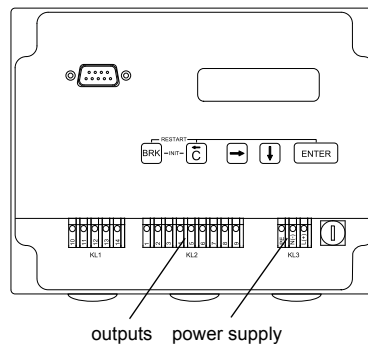

Fig. 6.10: Connection to the transmitter
- Remove the right blind plug for the connection of the power supply (see Fig. 6.10).
- Insert the power cable into the housing (see Fig. 6.10).
- Connect the leads to the terminals of the transmitter (see Fig. 6.10 and Tab. 6.6).
- Remove the second blind plug from the right for the connection of the outputs (see Fig. 6.10).
- Connect the leads to the terminals of the transmitter (see Fig. 6.10 and Fig. 6.6).